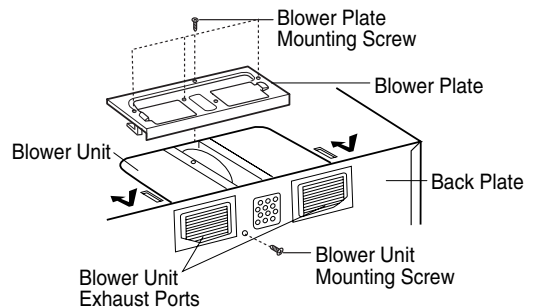

Figure 19
7. Reattach the blower plate to cabinet so the exhaust ports and blower plate opening are aligned. Attach with one blower unit mounting screw and then one or several blower plate mounting screw(s). See Figure 19.